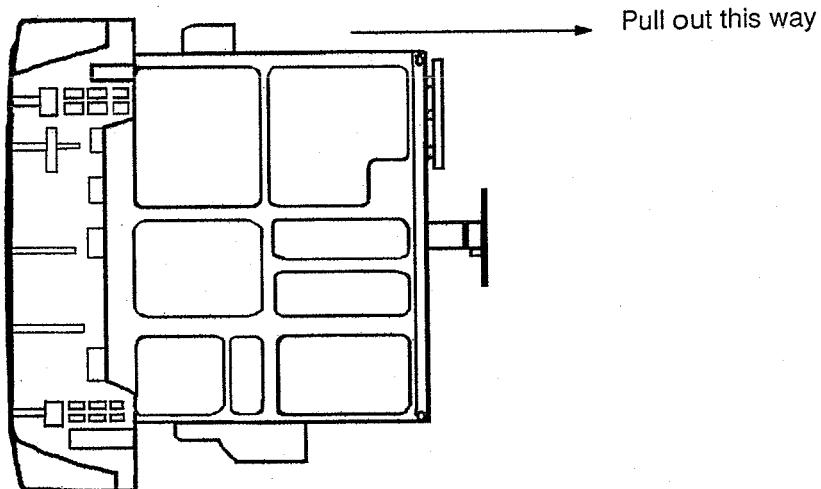

Fig.8
2. Stand the TV set as shown in fig. 8.
3. Remove the E-Board from the TV set by pressing the chassis guide and pulling the main board out as shown in figure 8.